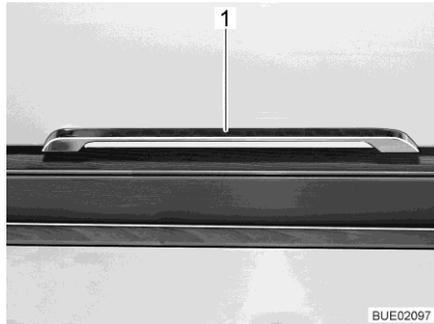

Fig. 89 Release handle
- Press the release handle (Fig. 89,1) upwards, to the side or downwards depending on the fitted position and hold it down.